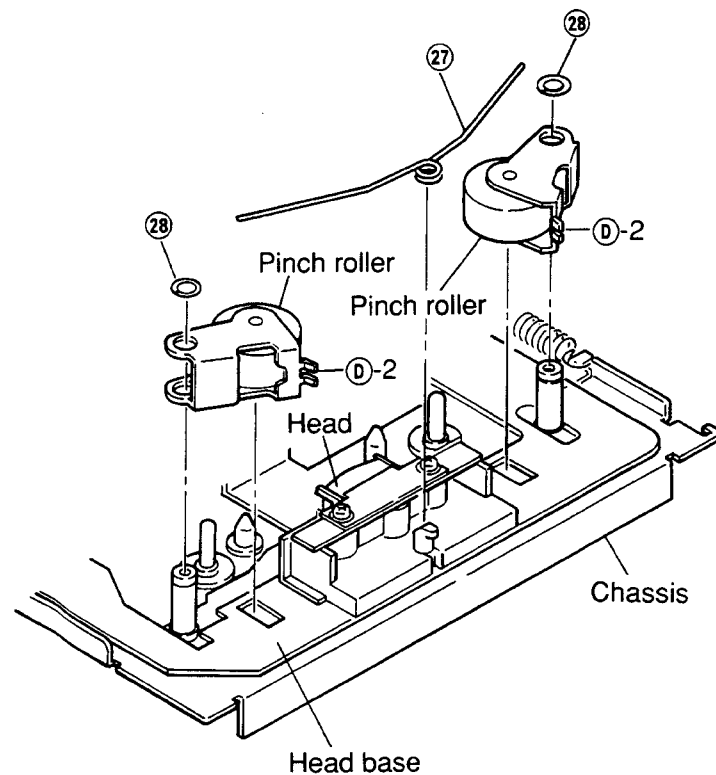

Figure 20
- (1) Remove pinch roller spring ⑳ as shown in Figure 20.
- (2) Remove M3.1 two lock washers ㉔ and remove the pinch roller as shown in Figure 20.
- (3) Mount the pinch rollers following the removal steps in the reverse order. Apply insulation coating to the position ㉑-2 of the pinch roller as shown in Figure 20.